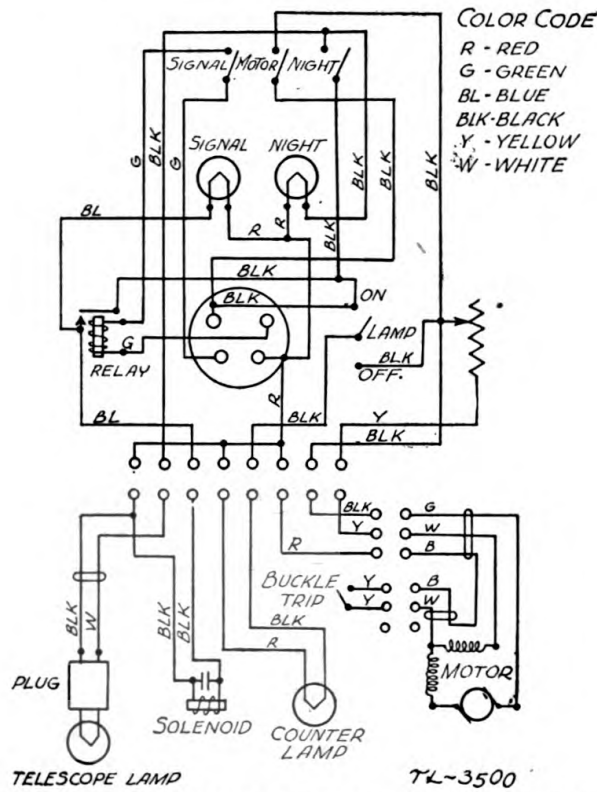

FIGURE 27.—Schematic wiring diagram of theodolite PH-BC-33.
(3) The counter recording system consists of two right angle prisms and a lens which focuses the image of the illuminated internal counters on one edge of the film in the camera aperture. This system is mounted entirely inside of the theodolite frame. Light rays reflected from the counters are bent by the first prism, pass through the lens and are bent by the second prism to focus on the film in the camera aperture. This system serves to photograph the site, azimuth, and time counters and the theodolite serial number which is placed on the time counter.
f. Electrical system.—Each theodolite obtains its power from a 12-volt storage battery. The cord CD-407 connects the battery to the junction box and two leads of the four-conductor cable complete the connection to the theodolite. The schematic wiring diagram of the theodolite is shown in figure 27. Detailed operation
(1) The tracking optical system is identical in operation with that of theodolite PH-BC-33 (par. 31e(1)).
(2) The camera optical system of the theodolite PH-BD-33 consists of a 12-inch focal length lens focused permanently at infinity, and a mirror. Parallel rays of light enter the optical system, are focused by the lens, and bent 90° by the mirror to the film in the camera aperture. Three orienting indicator projections on the camera aperture, two vertical and one horizontal, cast shadows on the film. The center of the camera optical system is focused on the intersection of two imaginary lines, one between the upper and lower vertical indicators and a second from the horizontal indicator mark perpendicular to the vertical indicator line. In addition, the field of view between the horizontal portions of the vertical indicators is 50 mils. The presence of the mirror in the camera optical system reverses rights and lefts on the picture but has no effect in the vertical direction.
(3) The counter recording system is identical in operation with that of theodolite PH-BC-33 (par. 31e(3)).
f. Electrical system.—Each theodolite obtains its power from a 12-volt storage battery BB-46. The cord CD-407 connects the battery to the junction box and two leads of the four-conductor cable complete the connection to the theodolite. The wiring of the theodolite is similar to that of theodolite PH-BC-33 (fig. 27), with the exception that there is no rheostat for motor speed control, as the camera motor speed is governor-controlled and the connecting cable terminals are wired differently. Detailed operation of the individual electrical components of the theodolite is given below.
(1) The signal switch closes the circuit of the relay in the theodolite. This relay receives intermittent operating impulses from the time interval device through the remaining two leads of the four-conductor cable and the two-conductor field wire connected from the terminals on the junction box to the time interval device. The relay closes the 12-volt operating circuit to the time counter solenoid and the signal lamp. Normally the relay is operated once each second by the time interval device.